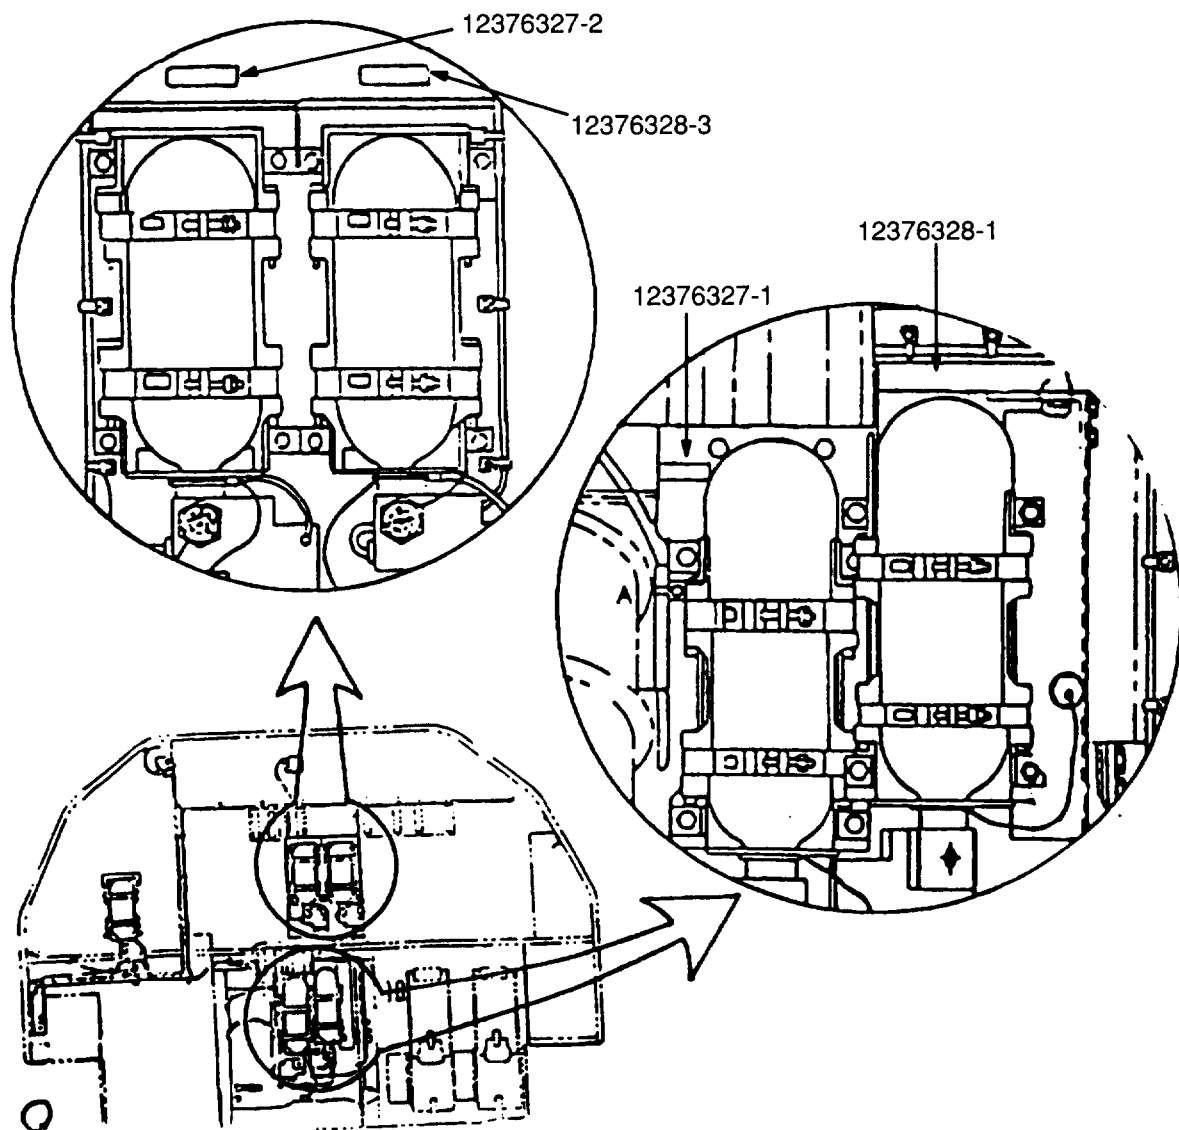

Figure 3
11. Remove the protective backing from appropriate label and position as shown in Figure 3.